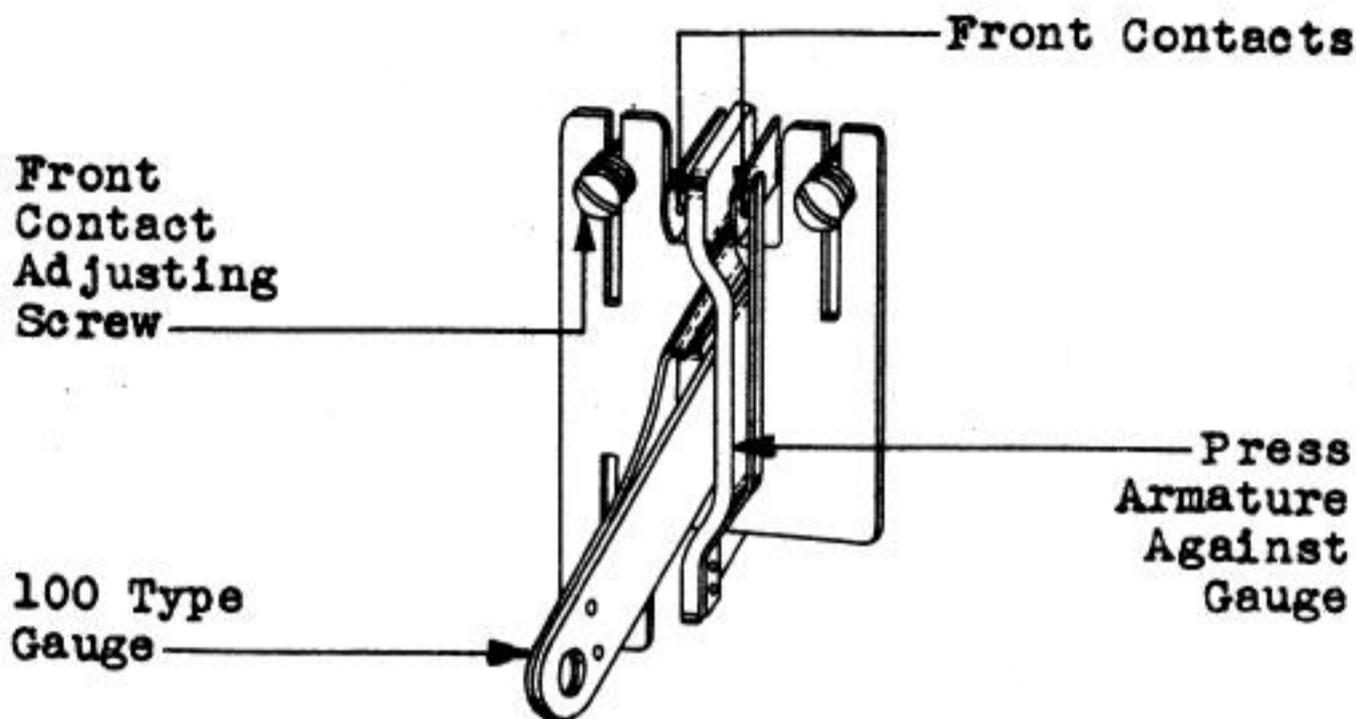

Fig. 110 - Method of Adjusting for Minimum Front Contact Make
Stops: Insert the proper "Front Contact Make" gauge between the stop pin (or pins) and the core or between the armature and the core when no stop pin is provided. Apply sufficient pressure to the armature opposite the lower part of the core to hold it against the gauge as shown in Fig. 110. Exercise care not to distort the armature as this will provide a different gap under operating conditions. Turn in the front contact adjusting screw with the KS-6854 screw-driver until the front contacts just make or the armature just touches the front stop.
removable paper armature stop, and insert the .007" blade of the No. 74D gauge between the armature stop pin or pins (or the armature when no stop pin is provided) and the core, taking care that the bottom edge of the blade lines up with the bottom edge of the core. Apply sufficient pressure to the armature opposite the lower part of the core to hold it against the gauge as shown in Fig. 110 but exercise care not to distort the armature as this would provide a different gap under operating conditions. Turn the front contact adjusting screw with the KS-6854 screw-driver until the front contacts just ~~make~~ or the armature just touches the front stop. Remount the stop as covered in
(7) Relays Having Values Greater Than .005" Specified Under "Front Contact Make": Remove the removable paper armature stop from the relay. Insert a gauge of the value specified under "Front Contact Make" between the stop pin or pins (or armature when no stop pin is provided) and the core. Apply sufficient pressure to the armature opposite the lower part of the core to hold it against the gauge as shown in Fig. 110, but exercise care not to distort the armature, as this will provide a different gap under operating conditions. Turn the front contact adjusting screw with the KS-6854 screw-driver until the front contacts just make or the armature just touches the front stop. Remount the stop as covered in (6).